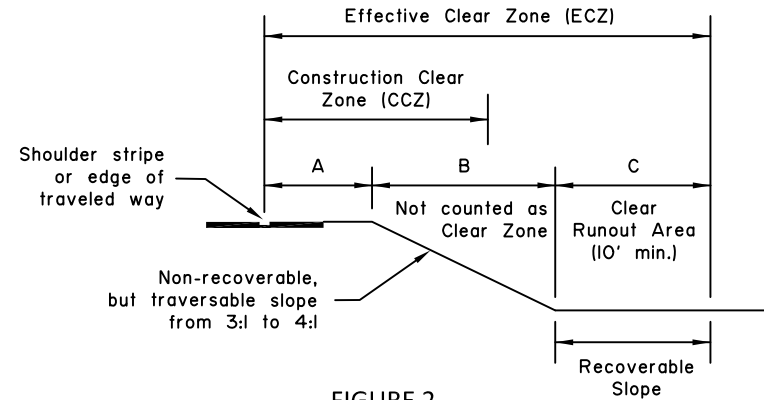

FIGURE 2
- If CCZ include or ends on a slope of 3:1 to 4:1, use the Effective Clear Zone (ECZ) that extends beyond the bottom of the slope to provide a clear runout area of 10 foot minimum width. The ECZ width must equal or greater than the CCZ width from Table 1. See Figure 2 and verify that A+C ≥ CCA and C ≥ 10 feet.